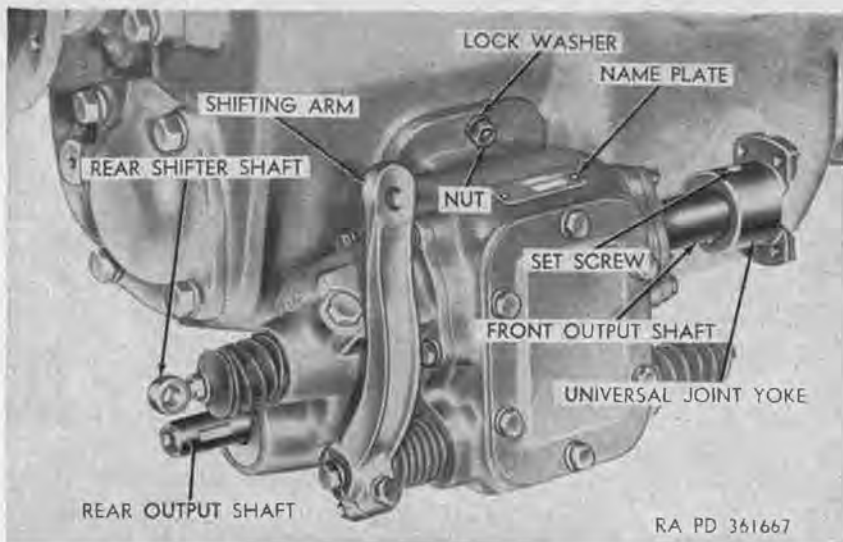

Figure 211. Transmission mounted power-take-off (dump truck M51 only).
- (1) Perform b (1), (2), and (3) above.
- (2) Remove cotter pin from end of power-take-off-cross-shaft-rod yoke pin, remove yoke pin, and remove cross-shaft rod from rear shifter shaft (fig. 211).
- (3) Cut locking wire on setscrew securing universal joint yoke to rear output shaft (fig. 211), and loosen setscrew.
- (4) Perform b (4) and (5) above.
- (5) Tap yoke on rear output shaft lightly to remove hydraulic-hoist-pump propeller shaft from power-take-off.
- (6) Remove and discard power-take-off mounting gasket.
- (1) Perform *c*(1) and (2) above.
- (2) Aline key on rear output shaft (fig. 211) with keyway in yoke on front of hydraulic-hoist-pump propeller shaft, and tap lightly on yoke to slide it onto output shaft.
- (3) Perform *c*(3), (4), and (5) above.
- (4) Drive yoke onto rear output shaft until inner end of key is flush with end of yoke, tighten hex-socket set screw in yoke, and lock set screw in position with wire.
- (5) Adjust and connect cross shaft rod to rear shifter shaft (fig. 211) using same procedures as in *c*(5) above.
- (6) Perform *c*(6) and (7) above.